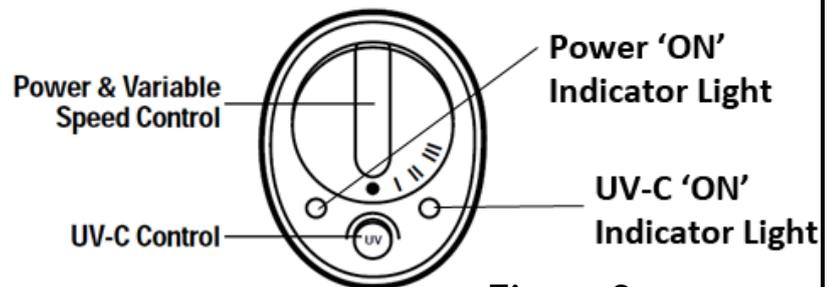

Figure 2
4. Select UV-C 'ON' or 'OFF' using UV-C Power Button (Figure 2).